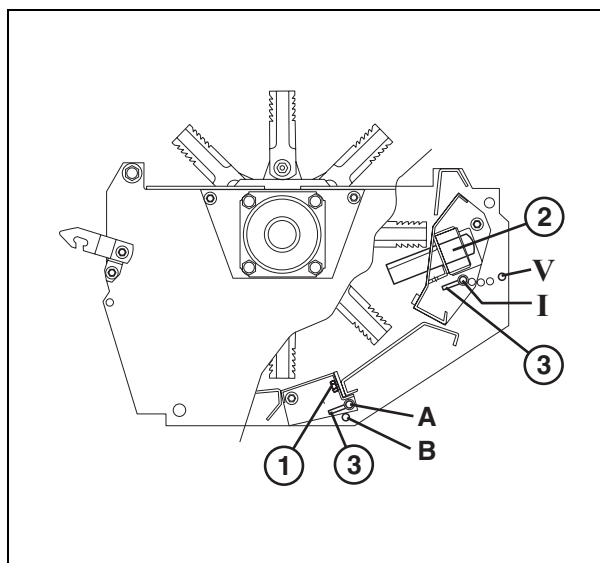
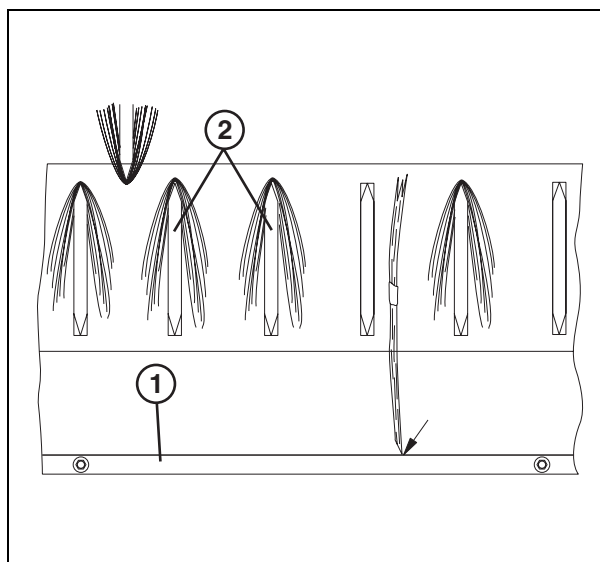

Fig. 22
Fig. 23
(Fig. 22) and (Fig. 23)
Wheat, rye, barley and oats. The cross bar (1) must be in position A and the counter knife bar (2) in position I, II or III depending on required chop length and water content in the crop. Position I consumes the most power, and in wet crops the straw may settle on the counter knives resulting in even higher power consumption. If the straw starts settling on the counter knives, they must be angled one or two positions down. When the counter-knives (2) are turned down, the material will slide on the knives and will be easily chopped, (Fig. 23). It is advisable to use the cross bar instead of turning the counter knives one position up. Using the cross bar requires less power and improves the chopping effect more, than turning the counter knives one position up, from position II into position I. Improving the chopping effect will take up more power, which may affect combine capacity. It is important that the chopper is correctly adjusted considering both chopping effect and combine capacity.